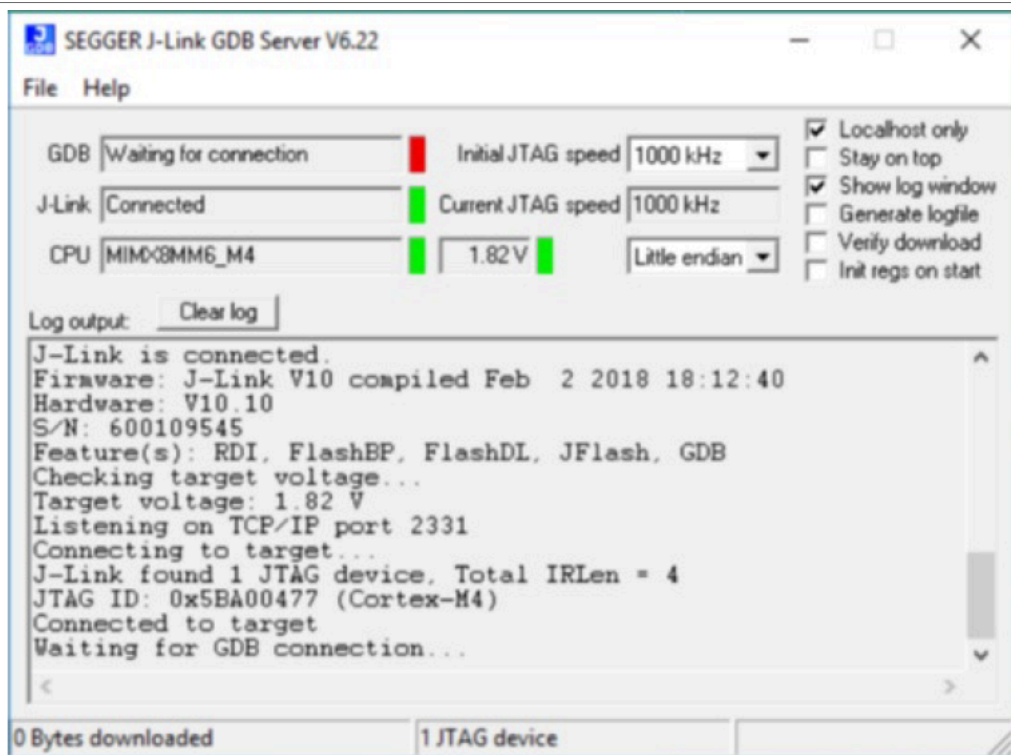

Figure 124. J-Link connected and GDB server running
5. After GDB server begins to run, the screen looks as in Figure 124: